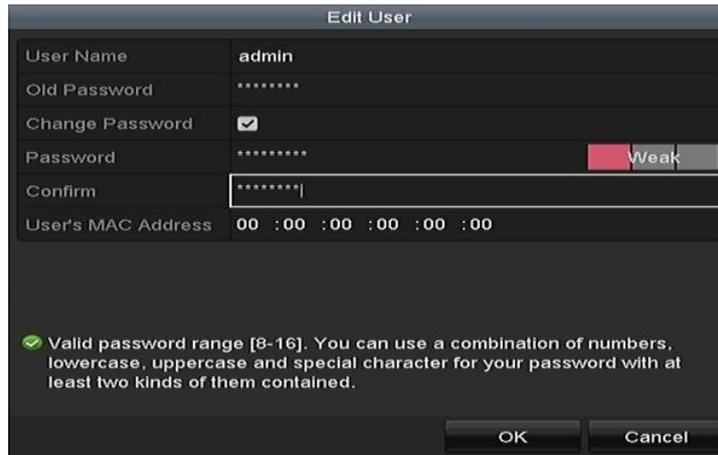

Figure 15-10 Edit User (admin)
Step 3 Click the  icon to enter the Edit User interface, as shown in Figure 15-10.